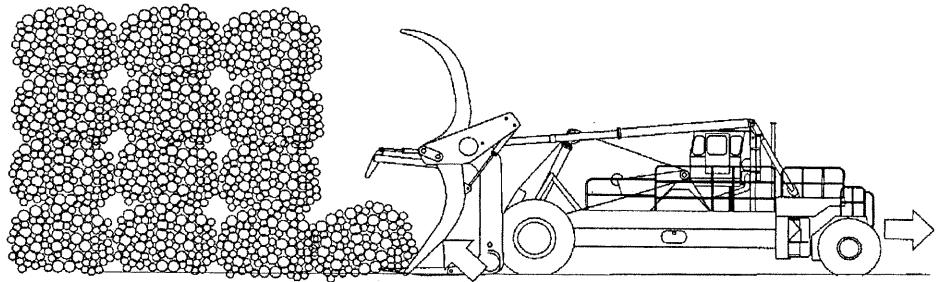

Fig 4-18
2. To place the bundle, set the bundle in position, raise the auxiliary hold-down arms and push forward with the kickoff arms while backing up. The bundle will slide off of the tines. See Fig. 4-18.